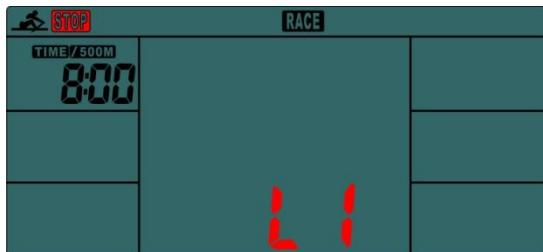
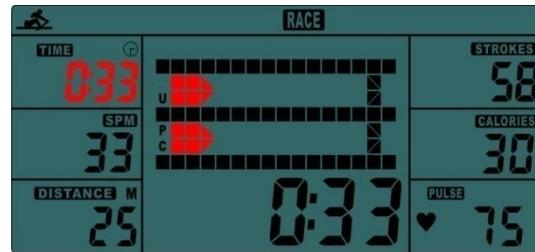

Fig.5
Fig.6
II. RACE (Fig.5):
- A. Press "START" button to start and "STOP" will disappear. "USER" and "PC" will display in the matrix (Fig.6). The computer will stop when either user or computer has reached the race distance that was set. Then the matrix displays "PC WIN" or "USER WIN" (Fig.7).
ONLY ARM ROWING: This workout should tone your arm, shoulder, back and abdominal muscles. Sit on the machine as shown in Fig. 4. Straight your legs, lean forward and grasp the handles. Control your moving and gradually lean back to just past the up-right position (Fig. 5) and continue to pull the handles towards your chest (Fig. 6). Return to the starting position and repeat.